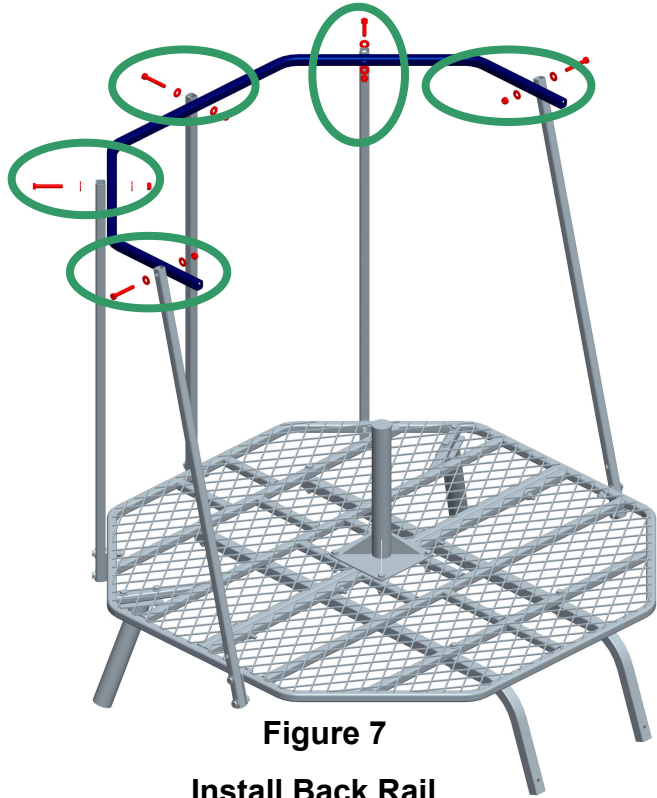

Figure 7
Locate Back Rail(#8). Install the Back Rail (#8) onto the assembled Back and Front Rail Uprights using five (5) M8x55 Bolts, ten (10) Nylon Washers and five (5) Locknuts as shown in Figure 7.